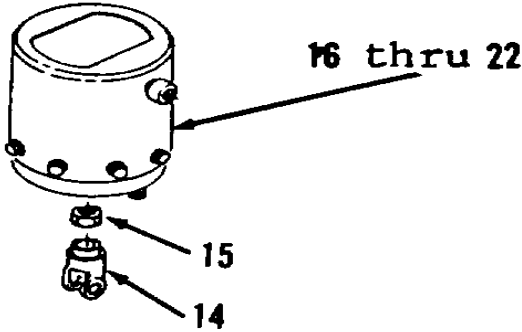
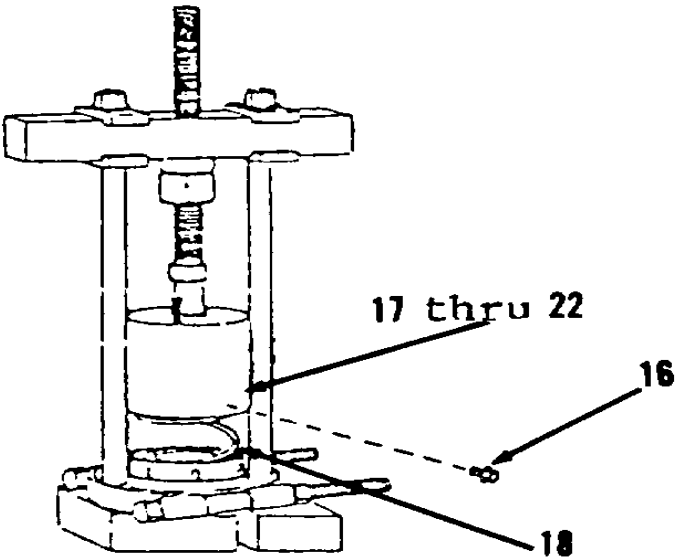

Figure 6-4.
Figure 6-5.
- 1. Loosen nut (15, Figure 6-4).
- 2. Remove rod end (14).
- 3. Remove nut (15).
- 4. Install puller assembly, bearing puller attachment and spacer on items 16 thru 22 as an assembly (Figure 6-5).
- 5. Remove eight bolts (16).
8. Push spring (18) into housing (22) with tooling.
9. Install eight bolts (16).
11. Install nut (15, Figure 6-4) loosely.
12. Install rod end (14).
13. Tighten nut (15).